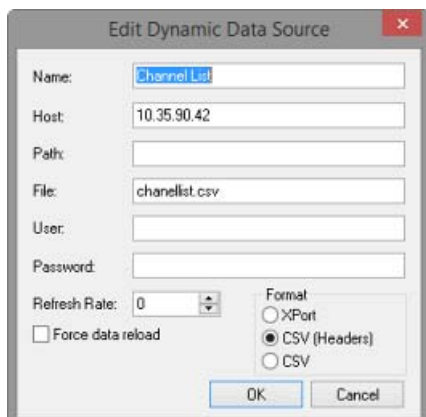

FIG. 45 Edit Dynamic Data Source dialog
2. Click the **Edit** button to open the *Edit Dynamic Data Source* dialog (FIG. 45).